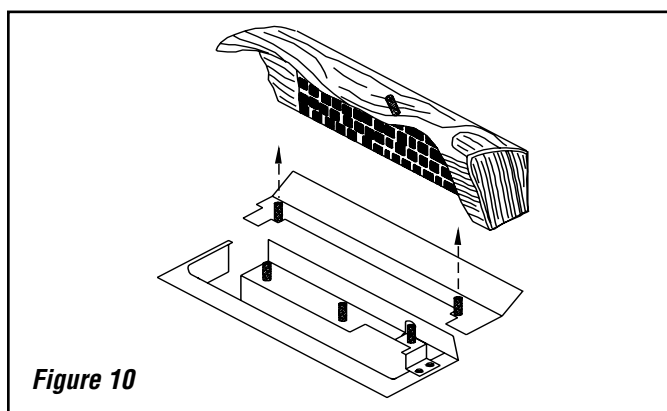

Figure 10
- 2) Align the holes in the bottom of the rear log (the longest log in the set) with the two pegs just to the rear of the rear burner tube and slide the log down onto the pegs (**Figure 10**). The charred black surface of the log should face the front.